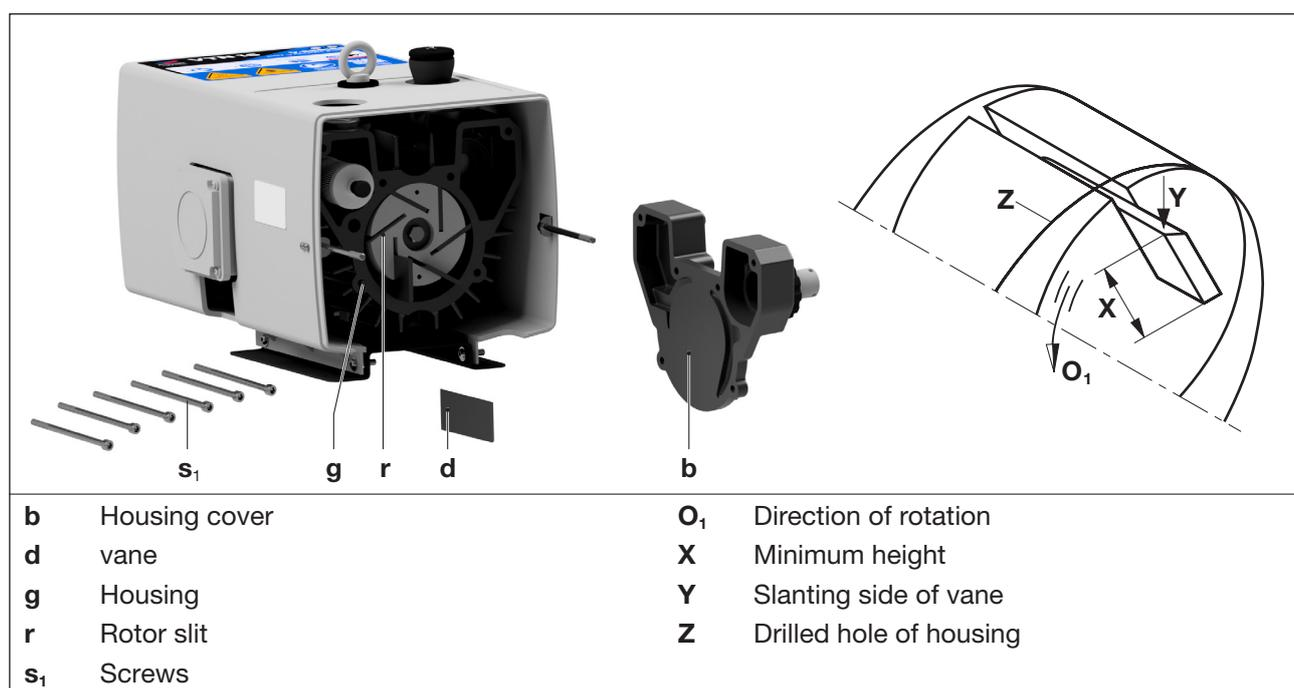

Fig. 5 Replacement of blades
- Undo six screws (Fig. 5/s1) on the housing cover (Fig. 5/b) and remove the housing cover.
- Take out the blades (Fig. 5/d) for checking.
The height of the blades must be at least (Fig. 5/X):
- Blow off the housing (Fig. 5/g) and the rotor slits (Fig. 5/r).
- Insert all blades (Fig. 5/d) into the rotor slits (Fig. 5/r). While doing this make sure that the blades (Fig. 5/Y) point outwards with the sloping side and the direction of rotation (Fig. 5/O1) matches with the direction of the drilled hole for the housing (Fig. 5/Z).
- Mount the housing cover (Fig. 5/b) with the six screws (Fig. 5/s1).